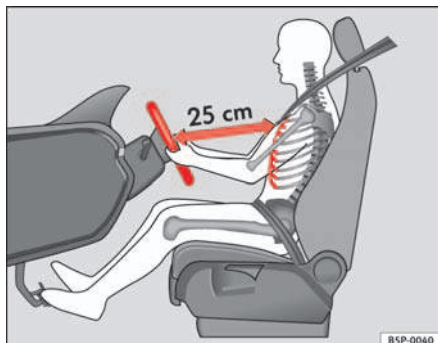

Fig. 1 The proper distance between driver and steering wheel
- Adjust the steering wheel so that there is a distance of at least 25 cm between the steering wheel and the centre of your chest ⇒ fig. 1.
- Adjust the driver's seat so that there is at least 25 cm distance between the centre of the chest and the hub of the steering wheel ⇒ page 10, fig. 1. If you are sitting nearer than 25 cm, the airbag system cannot protect you properly.